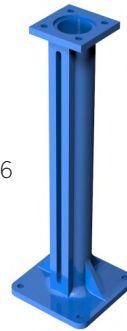

fig. 6
- Straight floor stands (Fig. 6)